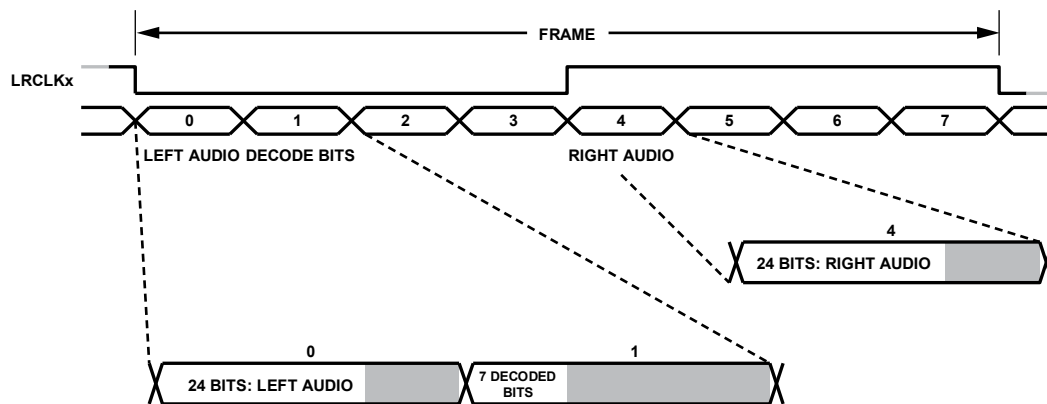

Figure 54. S/PDIF TDM Signal
When TDM mode is active, Slot 0 and Slot 4 contain the audio data, and Slot 1 contains the streamed block start, channel status, user data, and validity bits (see Table 62). The bits are streamed in real time and are synchronized to the audio data. Only the seven MSBs of Slot 1 are used, as shown in Table 62. The corresponding TDM format is shown in more detail in Figure 54.
**Table 62. Function of Decoded Bits in Figure 54**